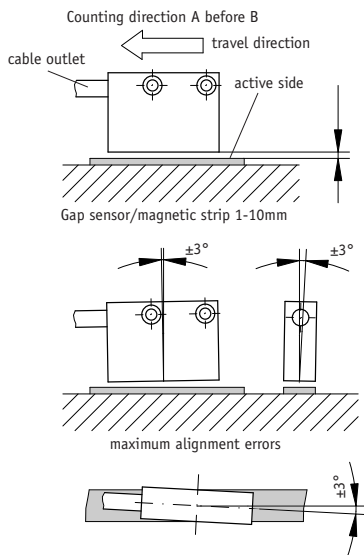

Fig. 6: Definition of counting direction / mounting
- **Sensor must be aligned correctly with respect to the counting direction (see fig. 6).** This can be ignored if counting direction can be changed via the follower electronics (eg. by magnetic display units from SIKO).
- When mounting the magnetic sensor, ensure that the gap between strip & sensor and the max. admissible deviation are maintained over the total measuring length! (see fig. 6)